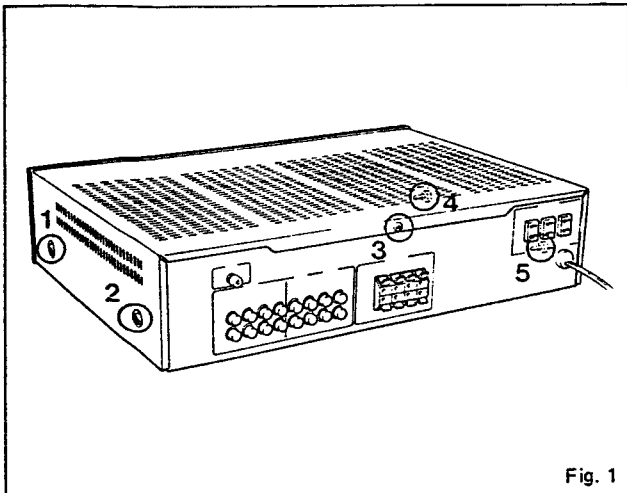

Fig. 1
Remove screws ① through ⑤ in Fig. 1 and then remove the top cover.